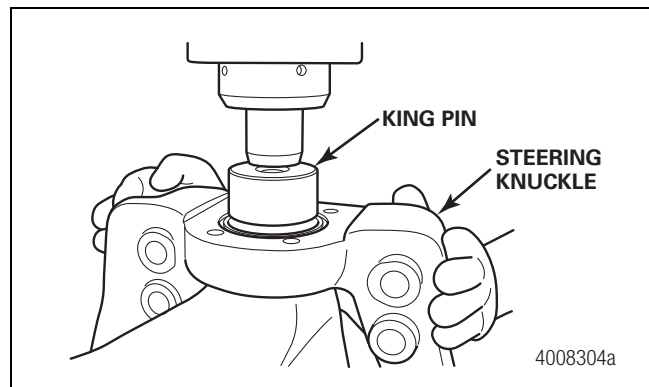

Figure 8.7
9. Use a flat-face driver to press the king pins through the knuckle and into the housing sockets. The pin is fully seated once it has bottomed out against the housing socket face. Refer to Section 10 and Section 12 for more information. Figure 8.7.